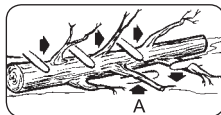

Fig. 15
Limbing a tree is the process of removing the branches from a fallen tree. Do not remove supporting limbs (A) until after the log is bucked (cut) into lengths (Fig. 15).